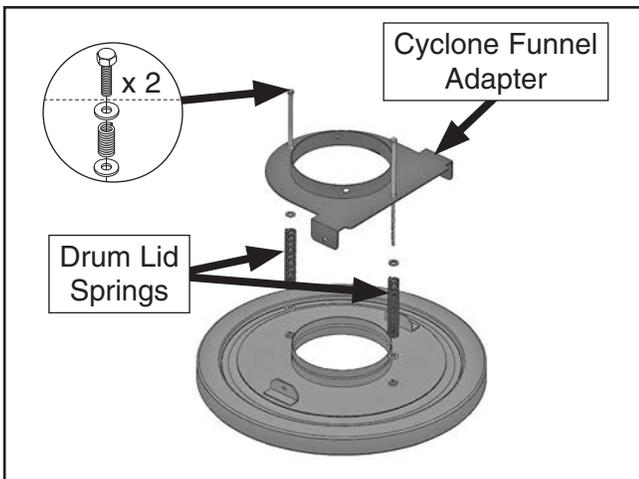

Figure 22. Installing cyclone funnel adapter.
- Position cyclone funnel adapter and drum lid together with (2) $\frac{3}{8}$ "-16 x 11" hex bolts, (2) drum lid springs, and (4) $\frac{3}{8}$ " flat washers, as shown in **Figure 22**.